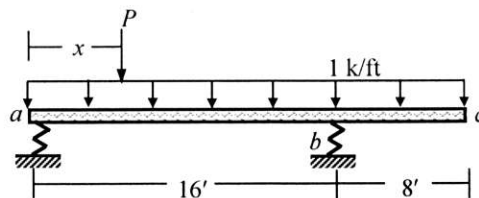

Fig. 2
3. Fig. 2 shows a rigid beam *abc* supported on helical springs *a*, *b* and subjected to uniformly distributed load  $1 \text{ k/ft}$  and concentrated force  $P$  at distance  $x$  from *a*.